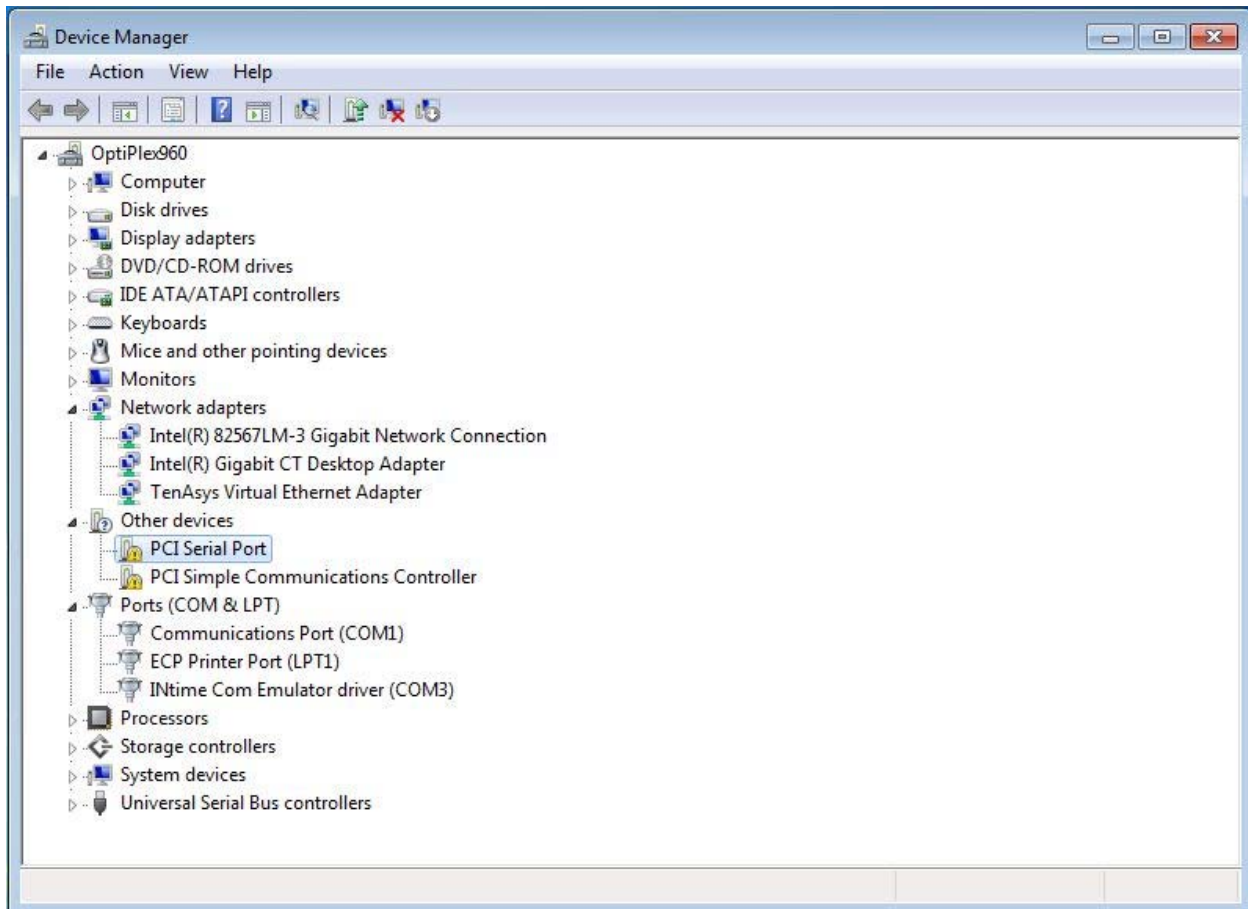

Figure 4.25 - Windows Device Manager Showing Virtual Serial Port
4. Now, let's confirm that the virtual serial port has been added. Open Windows Device Manager by going to **Start->All Programs->Administrative Tools->Computer Management** and click on **Device Manager**. Under Ports (COM & LPT), you will now see the virtual serial port: *INtime Com Emulator driver (COM3)*, Figure 4.25.